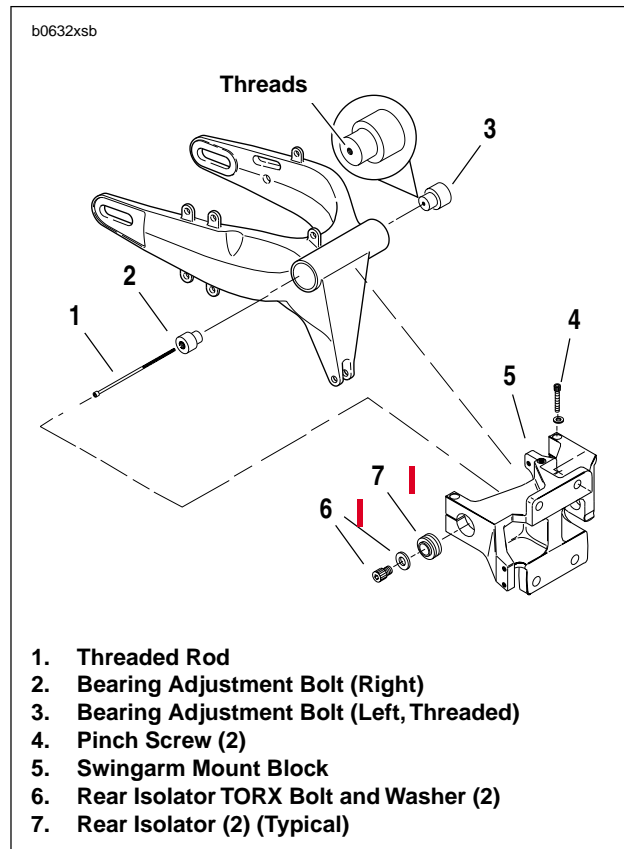
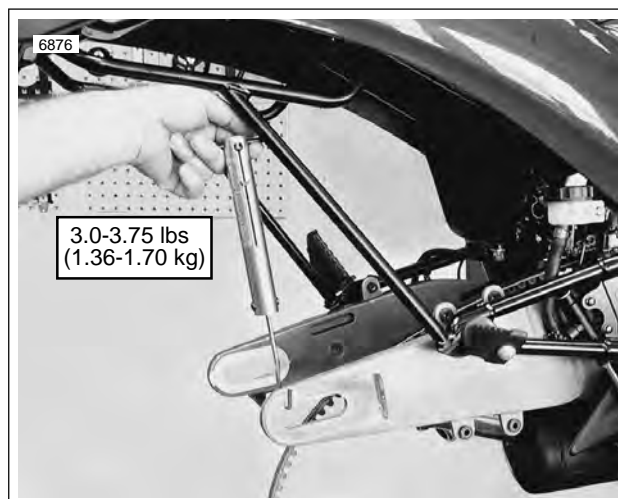

Figure 2-66. Swingarm Assembly
Figure 2-68. Checking Preload
7. See Figure 2-66. Remove left and right isolator bolts and washers (7).
1. See Figure 2-66. Align **new** swingarm between posts on swingarm mount block (5).
3. Tighten left side swingarm pinch screw (4) to 18-20 ft-lbs (24-27 Nm).
4. Install threaded rod (1).
- b. Insert threaded rod through right side bearing adjustment bolt (2) into threads on left side bolt (3).
5. Check swingarm preload using a scale as shown in Figure 2-68. Preload should be 3.0-3.75 lbs (1.36-1.70 kg). If preload does not meet specifications, tighten or loosen threaded rod and recheck.
6. See Figure 2-66. Secure swingarm in place.
- a. Remove both pinch screws (1).
- b. Install isolator TORX bolts and washers (7) through rubber isolators and into bearing adjustment bolts (2, 3).